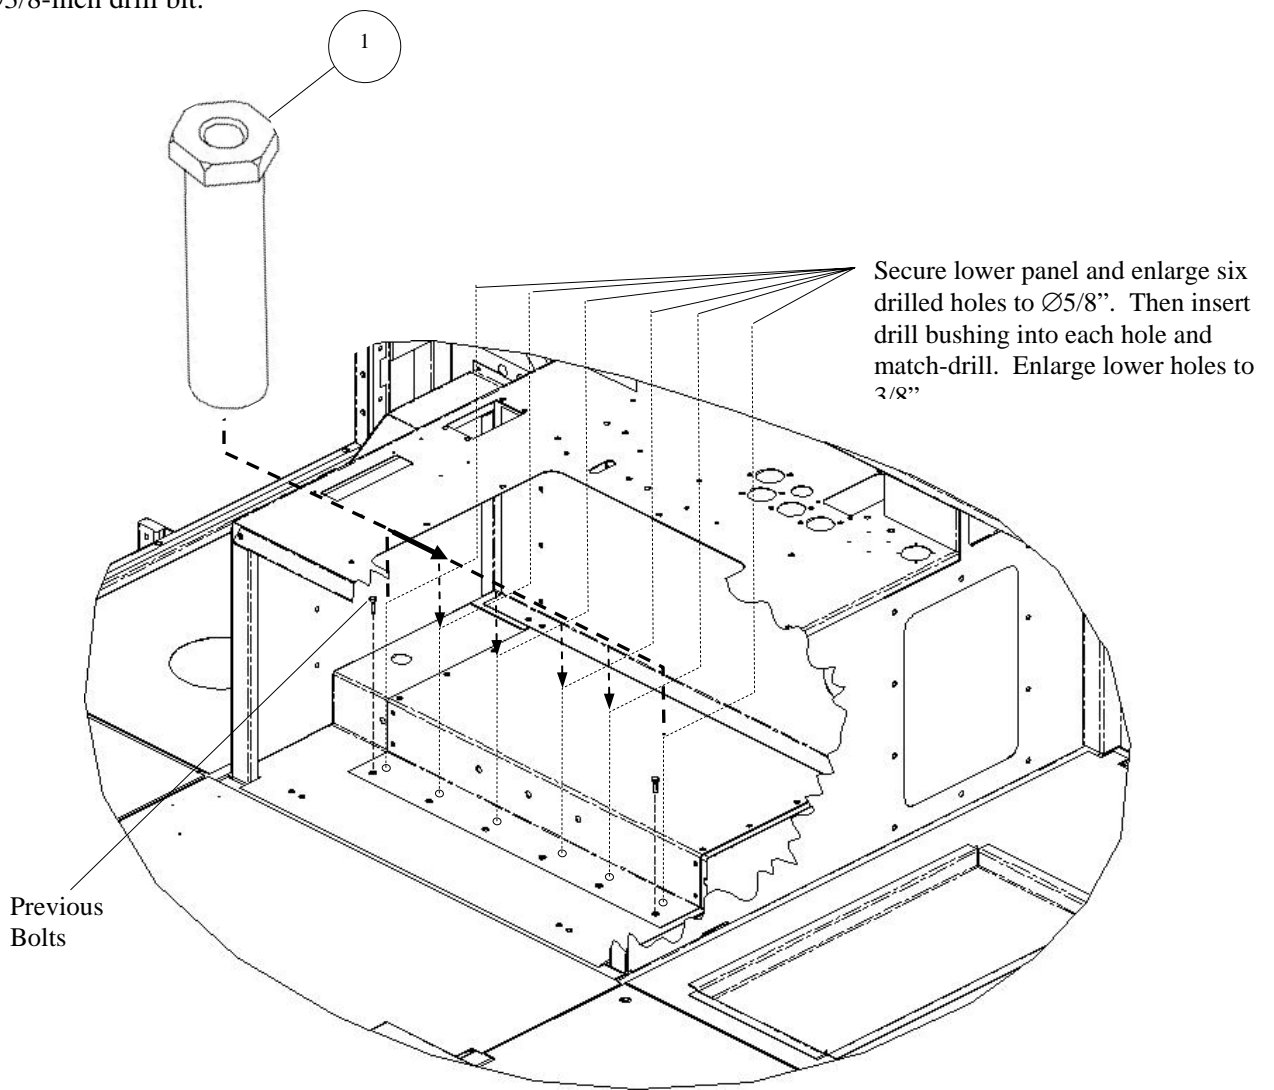

Figure 3-42. Match-Drill Frame Rail.
4. Match-drill frame rail as follows (see Figure 3-42):
The following procedure is used for each of the six holes shown in Figure 3-42.